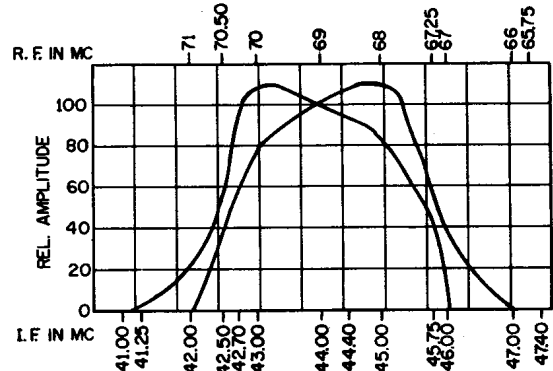

Figure 2. Overall R-F I-F Response Curve, Channel 4
2. Inject channel 4 sweep signal (69 mc, with 6 mc sweep width) into antenna. If necessary, adjust the following cores to bring the curve within limits (see Overall R-F-I-F Response Curve Fig. 2). Do not change settings of VC2, VC3 or VC4.